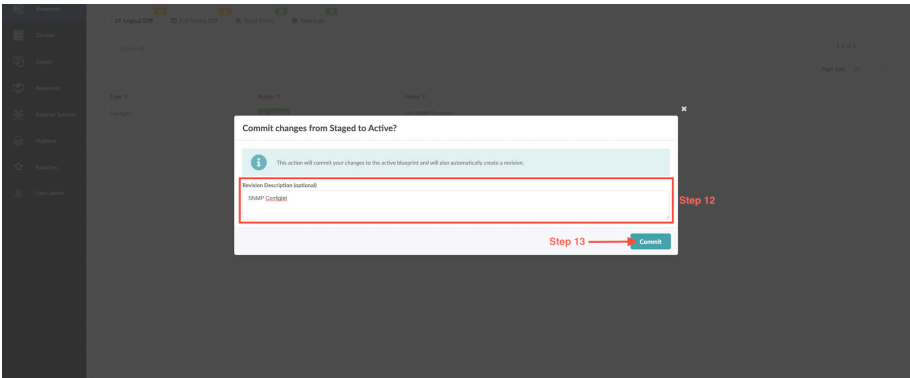

Figure 7.10 Committing Staged Configuration
Step 12: Provide a useful commit message. See Figure 7.10.